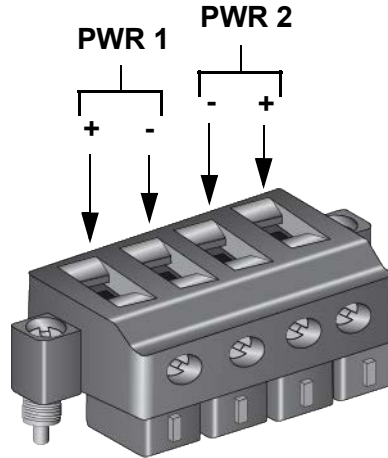

Figure 57. Loosening the Wire Retaining Screws on the POWER Plug
- Use a #2 screwdriver to loosen the wire retaining screws of the PWR 1 and PWR 2 pins. If you are powering the switch with only one DC power supply, you may use either the PWR 1 or PWR 2 pins. Refer to Figure 57.